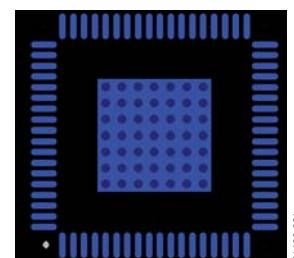

Figure 85. Exposed Pad Layout Example—Top View
- Place vias such that all layers of copper are connected, allowing efficient heat and energy conductivity. See Figure 85, which shows 49 vias arranged in a 7 x 7 grid in the pad area.